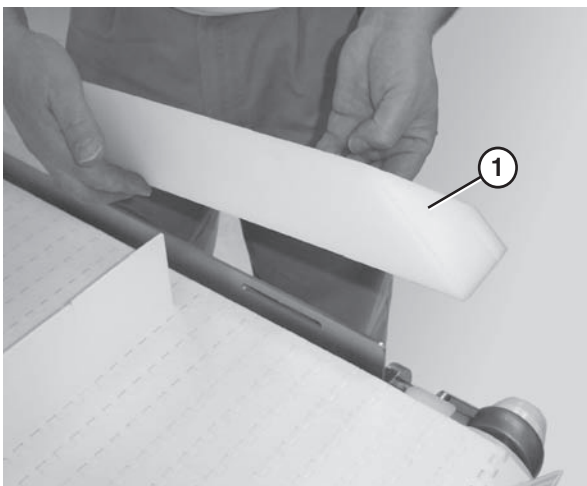

Figure 43
2. Remove the guide (Figure 43, item 1).